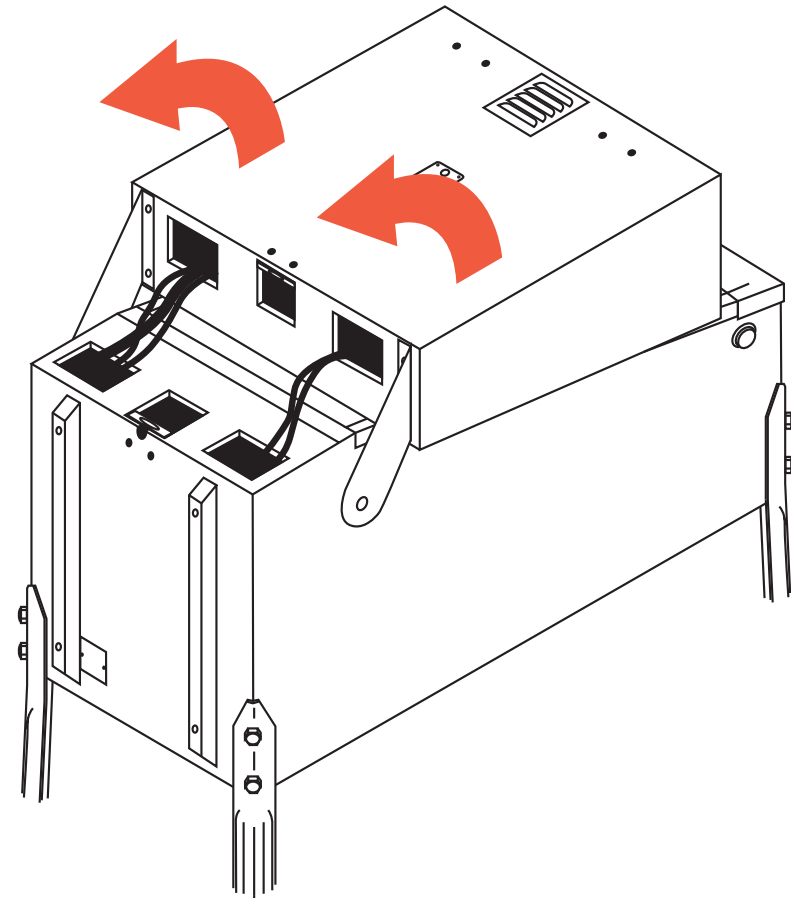

Figure A7. Raising the backbox to its upright position.
7) Using wire cutters, cut the nylon strap holding the backbox down (**CAUTION: PROTECT YOUR EYES** and have helpers/bystanders move away! The sharp ends of the cut strap will likely whip violently away from the game!). Remove the remainder of the packing material from the game and raise the backbox to its upright position (see figure A7). Ensure that the cables and wires in the neck of the game do not get pinched at any time during this process.